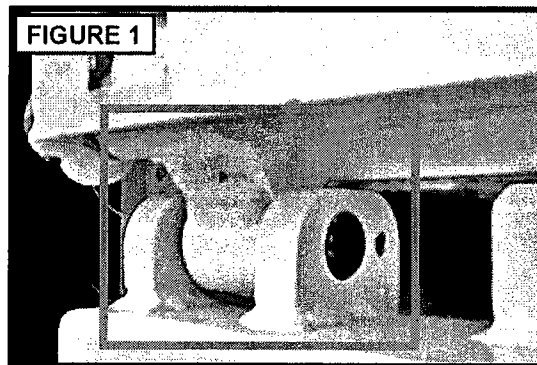

FIGURE 1
Step 1 (Figure 1)- Inspect all welds attaching the rear hopper pivot hinge bushing to the hopper structure.